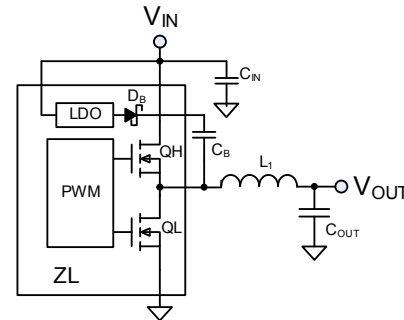

FIGURE 10. SYNCHRONOUS BUCK CONVERTER
Figure 10 illustrates the basic synchronous buck converter topology showing the primary power train components. This converter is also called a step-down converter, as the output voltage must always be lower than the input voltage.
The gate drive voltage for the high-side MOSFET driver is generated by a floating bootstrap capacitor,  $C_B$  (see Figure 10). When the lower MOSFET (QL) is turned on, the SW node is pulled to ground and the capacitor is charged from the internal VR bias regulator through diode  $D_B$ . When QL turns off and the upper MOSFET (QH) turns on, the SW node is pulled up to VDDP and the voltage on the bootstrap capacitor is boosted approximately 6.5V above VDDP to provide the necessary voltage to power the high-side driver. An internal Schottky diode is used with  $C_B$  to help maximize the high-side drive supply voltage.